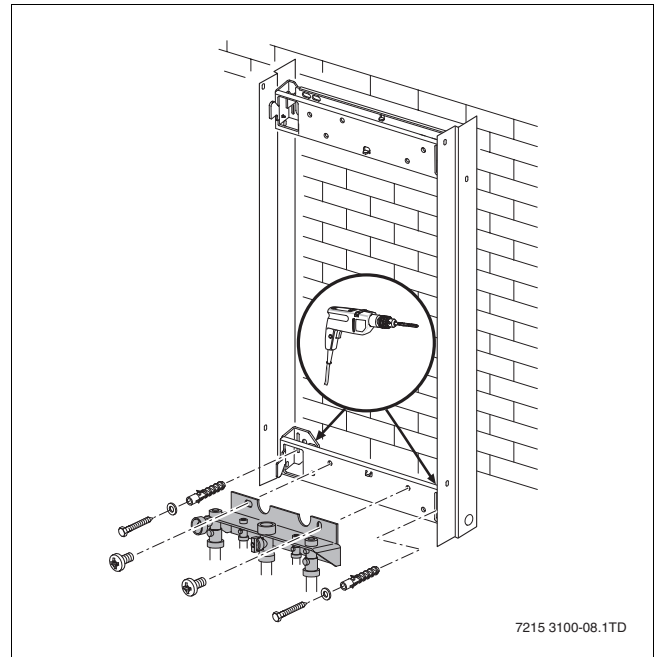

Fig. 8 Mounting the manifold
- Mount the lower bracket on the wall and attach the manifold assembly. If the manifold does not sit flat, check the orientation of the lower wall-spacing bracket (→ fig. 8).